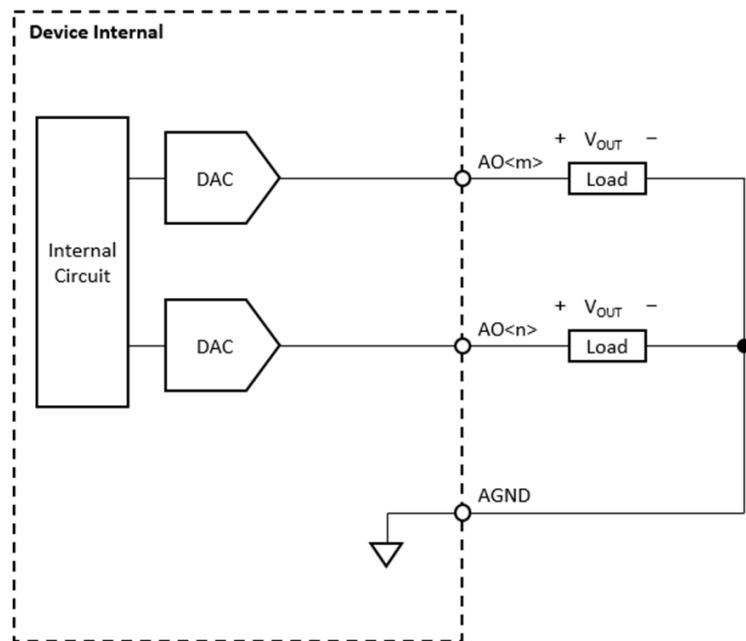

Figure 2.7 Analog output signal connection.
An analog output channel generates a voltage output to the load. The voltage to be generated is first sent by the internal controller to the digital-to-analog converter (DAC) in a form of digital data, and the data is converted by the DAC to an analog output voltage. The analog output channel is of single-ended type, hence the load should be connected between the analog output (AO) terminal and the analog ground (AGND) terminal. This is shown in Figure 2.7.